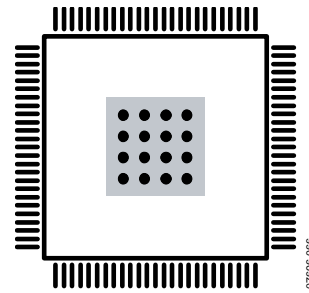

Figure 61. Exposed Pad Layout Example—Top View
- Vias should be placed to connect all layers of copper, allowing for efficient heat and energy conductivity. For an example, see Figure 61, which has 16 vias arranged in a  $4 \times 4$  grid in the pad area.